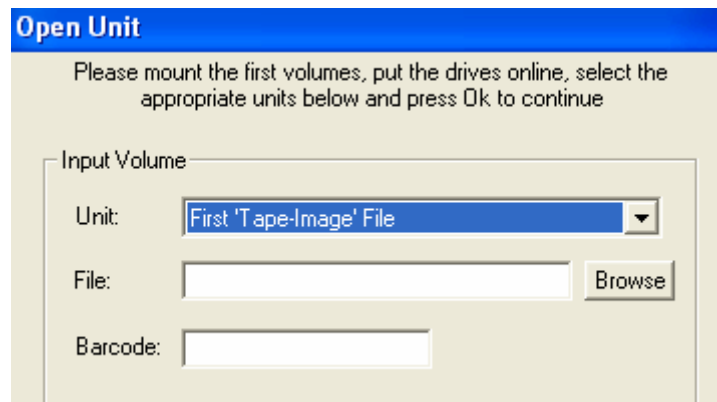

Figure 19: Open Unit/Input Volume Block with Tape Image Selection
- If the input unit is a tape image, as described in Section 2.1, the file edit control is enabled to allow the user to key in the name of the file to be used. (Alternatively, the user may press the Browse button and select the file graphically using the Select File Dialog Box). This block is shown in Figure 19: Open Unit/Input Volume Block with Tape Image Selection.